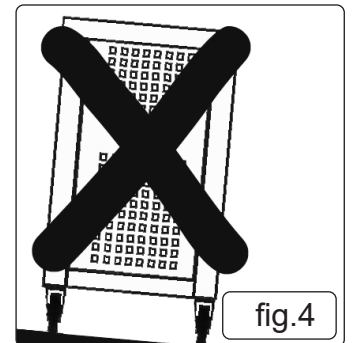

fig.4
- ❑ **WARNING!** **DO NOT** move across slopes of more than 5° as the rollcab may tilt over (fig.4).